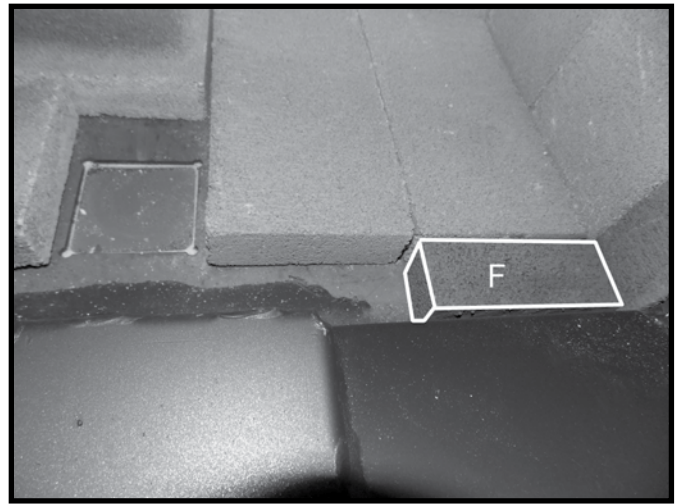
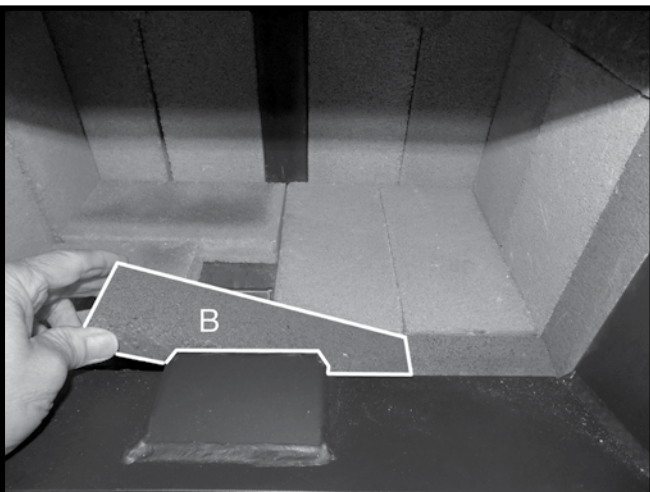
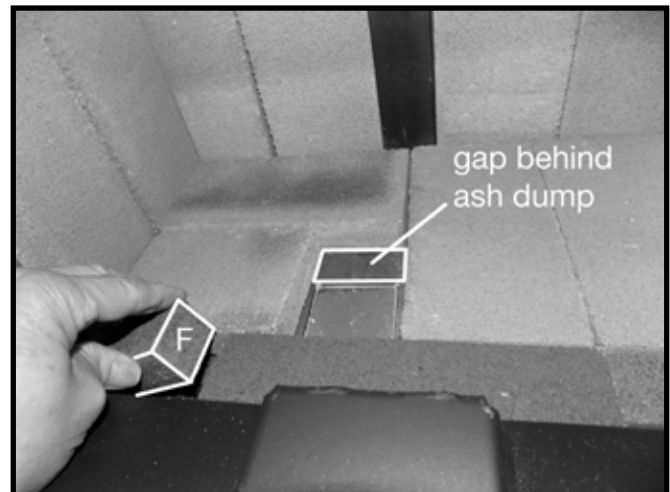

Figure 31: Short, narrow brick installed in front row.
Figure 32: Long narrow center brick in front row.
Figure 33: Final short narrow brick in front row.
11. Place a short narrow "F" brick against the front right side of the floor (Figure 31) followed by a longer "B" brick in the center of the front row (Figure 32). Finish with the last "F" brick placed against the left side front row (Figure 33). Note: There will be a gap remaining behind the ash dump.